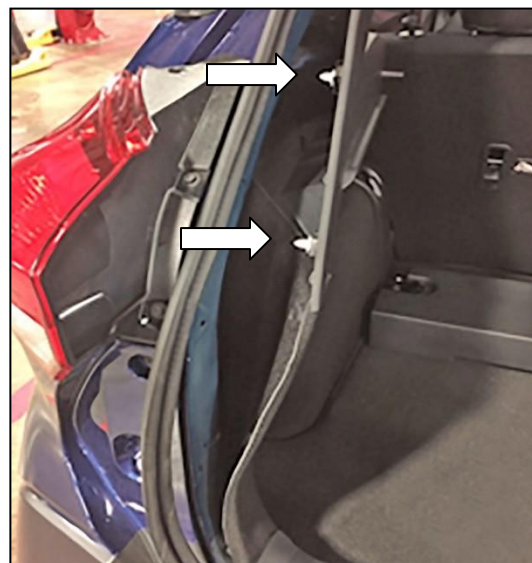

Figure 3
- 8. Unfasten the two (2) driver side luggage side upper finisher clips (Figure 3).